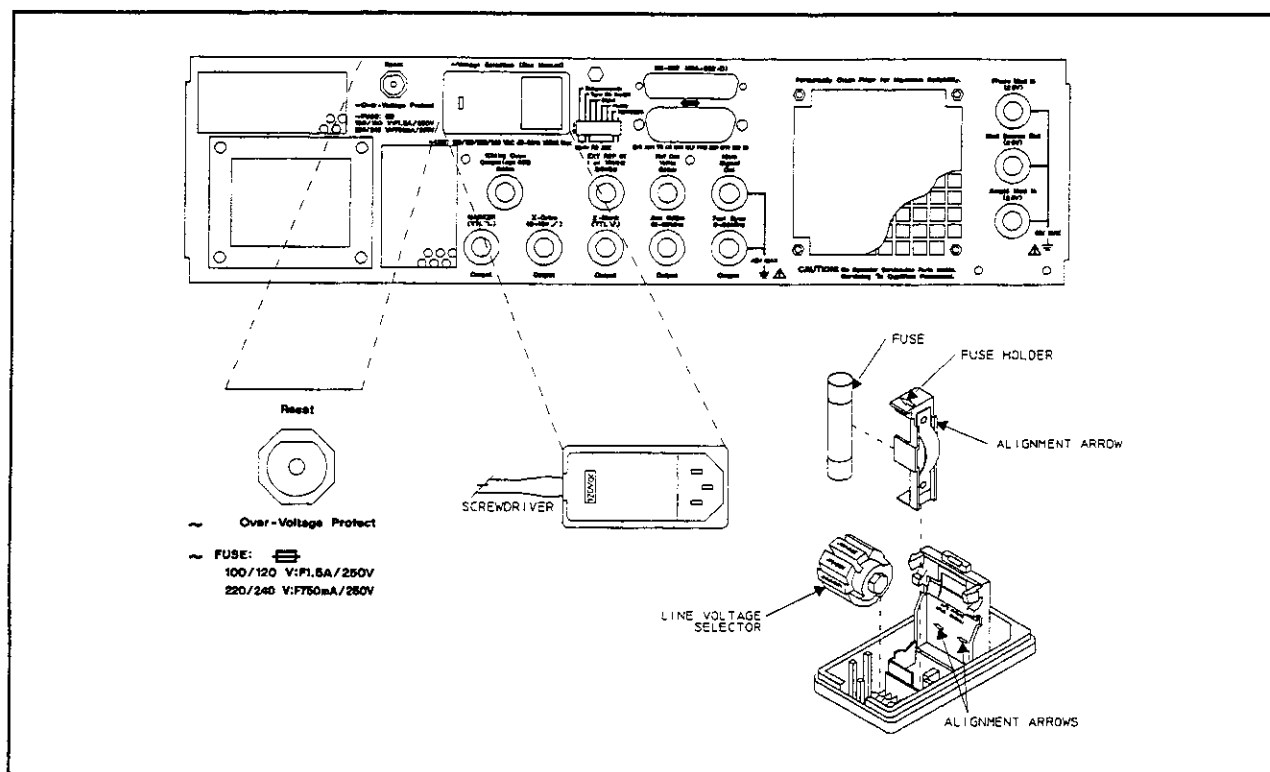

Figure 4-1. Line Voltage Selection, Fuse Replacement, and Circuit Breaker
The line voltage selector is set at the factory to correspond to the most commonly used line voltage of the country of destination. The line voltage selected for the HP 3325B is indicated on the line voltage selector (refer to figure 4-1). Refer to table 4-2 for the line voltage ranges and table 4-3 to set the line voltage and select the appropriate fuse. To change the line voltage and fuse:
2. Pry open the power selector cover on the rear panel with a small screwdriver (see figure 4-1).
In addition to the current protection provided by the line fuse, the HP 3325B is protected by an over-voltage circuit breaker. This device disconnects the power supply from the main power connector when the line voltage exceeds the upper limit. The reset switch, located on the rear panel (figure 4-1), pops out when this occurs. If this occurs: